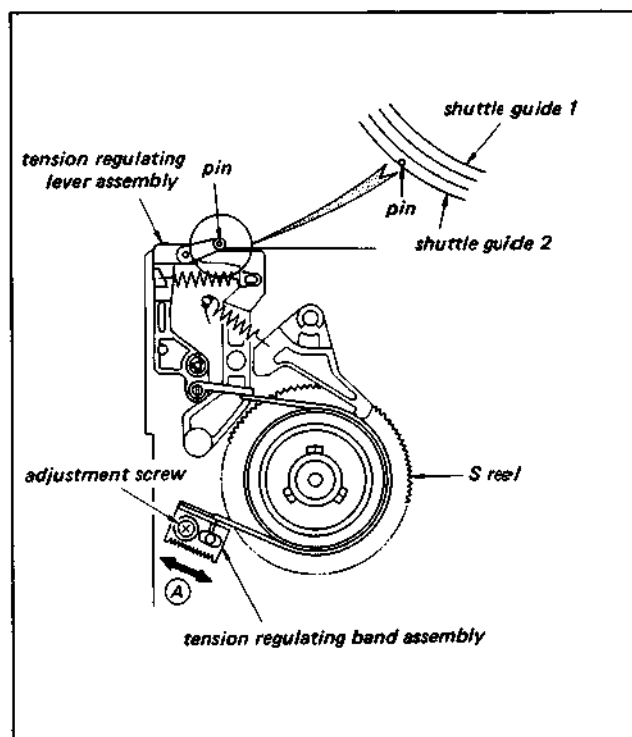

Fig. 3-35. Adjustment of the position of the tension regulating lever
- 2) Loosen the adjustment spring until the tape guide pin of the tension regulating lever assembly is positioned to the outside of the outer circumference of shuttle guide 2, as shown in Fig. 3-35. Then adjust by moving the tension regulating band assembly in the direction of arrow (A).